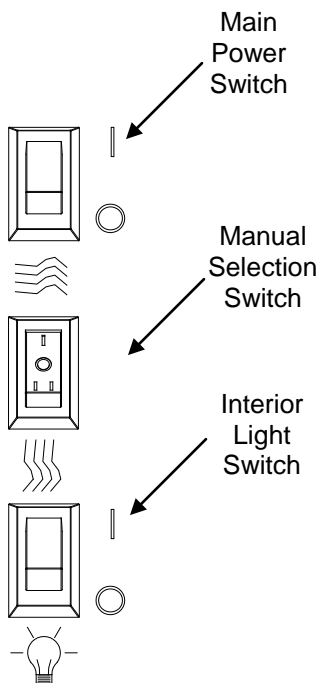

FIGURE 3
2. Locate manual controls. (refer to FIGURE 3)